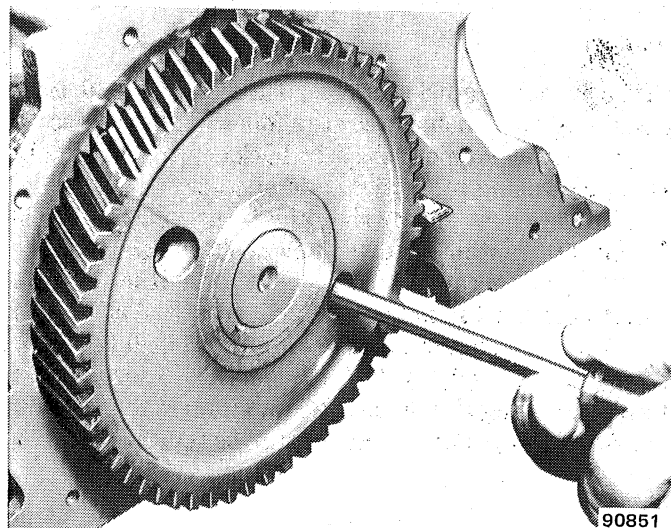

Fig. 1B-11 Removing Camshaft Thrust Plate Screws
(5) Remove two camshaft thrust plate screws through holes in camshaft gear (fig. 1B-11).
(6) Remove tappets. Refer to Tappet Removal for procedure.
(7) Remove distributor, oil pump drive and fuel pump. Refer to removal procedures.
(8) Remove camshaft and gear assembly by pulling out through front of block. Support shaft carefully when removing to prevent damaging camshaft bearings.